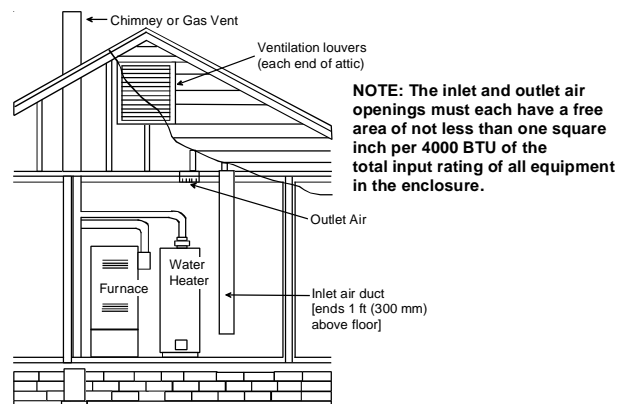

Figure A.9.3.3.1(1)(b) All Combustion Air From Outdoors through Ventilated Attic.
- (2)* Where communicating with the outdoors through horizontal ducts, each opening shall have a minimum free area of 1 in.²/2000 Btu/hr (1100 min²/kW) of total input rating of all appliances in the enclosure. [See Figure A.9.3.3.1(2).]